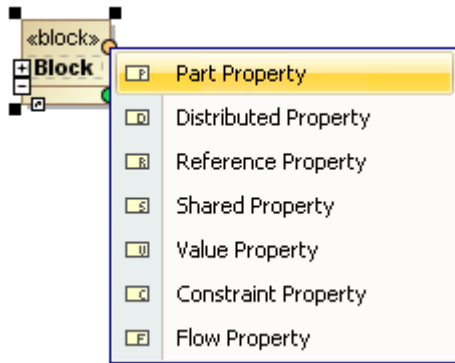

Figure 15 -- Block Smart Manipulator I for SysML Property
- (b) Block Smart Manipulator menu (Figure 15 and 16)
1. Click the small orange circle on a Block. The sub-menu will open (Figure 15).
If you just create a new stereotype as a subtype of Block (e.g., CustomBlock), and use it in your model (e.g., "C"). When clicking the small orange button, the block smartmanipulator menu I (Figure 15) will not be displayed *unless you save and restart your project first.*